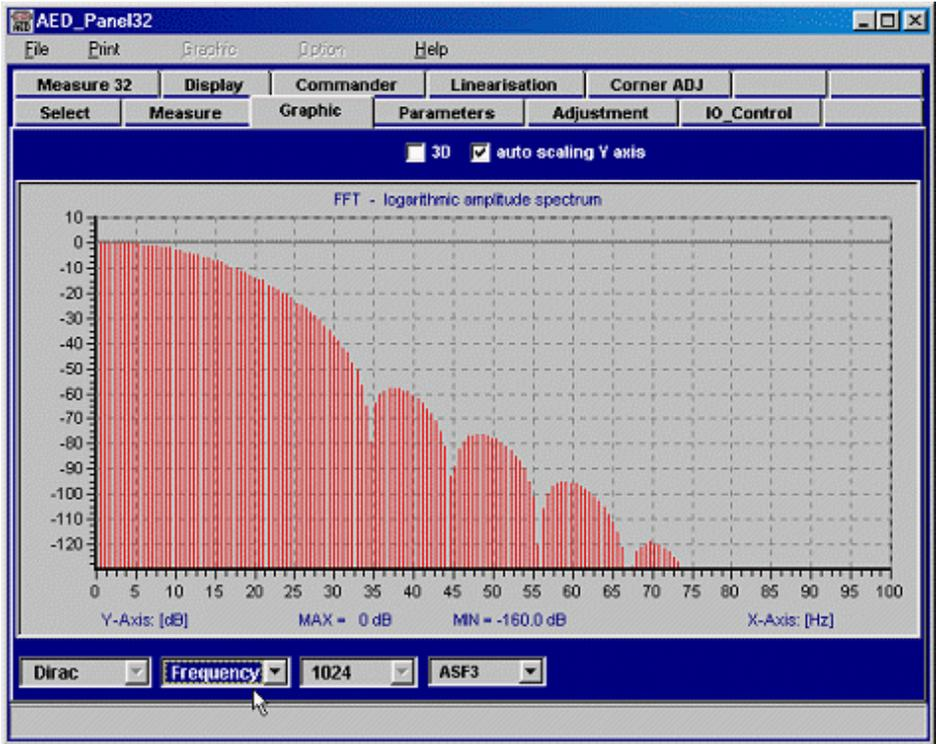

Fig. 5.10 Damping behavior (frequency response) of the 'post' filter (ASF3, FMD1)
- Now switch the display mode to 'Frequency', and you will see the damping behavior of the digital filter (Fig. 5.10, frequency response).